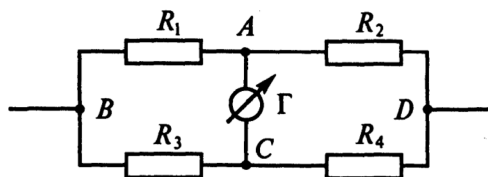

Figure 1: A simplified circuit of a Wheatstone bridge.
To analyze its operation, consider the simplified electric circuit (Fig. 1) The circuit consists of two resistors connected in series. Since there is the same current through these resistors, its value in accordance with the Ohm law is $I = V_1/R_1 = V_2/R_2$. Hence $V_1/V_2 = R_1/R_2$. Such circuits are called potential dividers (or voltage dividers). The Wheatstone bridge represents two potential dividers connected in parallel (Fig. 1). Points, at which the resistors are connected in series, are bound by a bridge with a galvanometer (G). The bridge is said to be balanced when the potential difference between the points A and C equals to zero, and there is no current flow through the galvanometer. Obviously at the point of balance, the ratio is